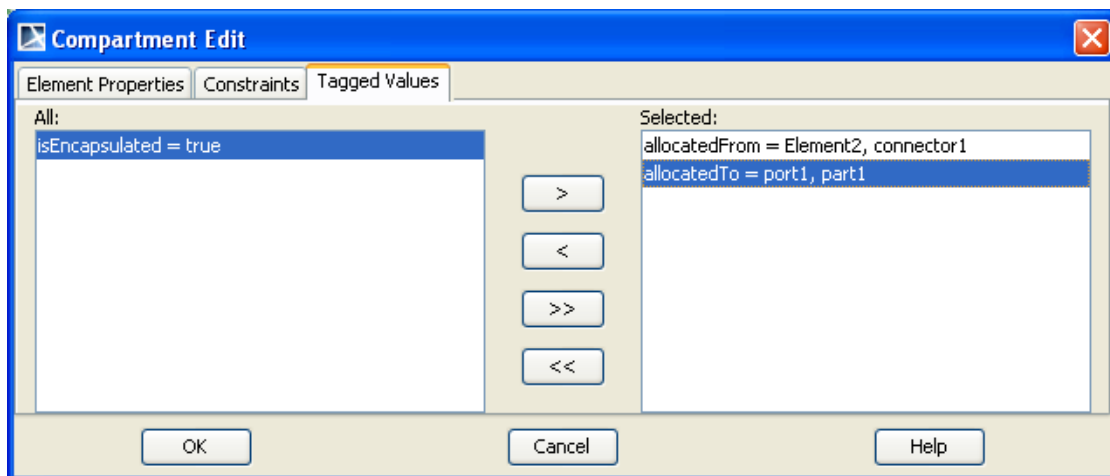

Figure 53 -- Compartment Edit dialog
3. The Compartment Edit dialog will pop up (Figure 53)